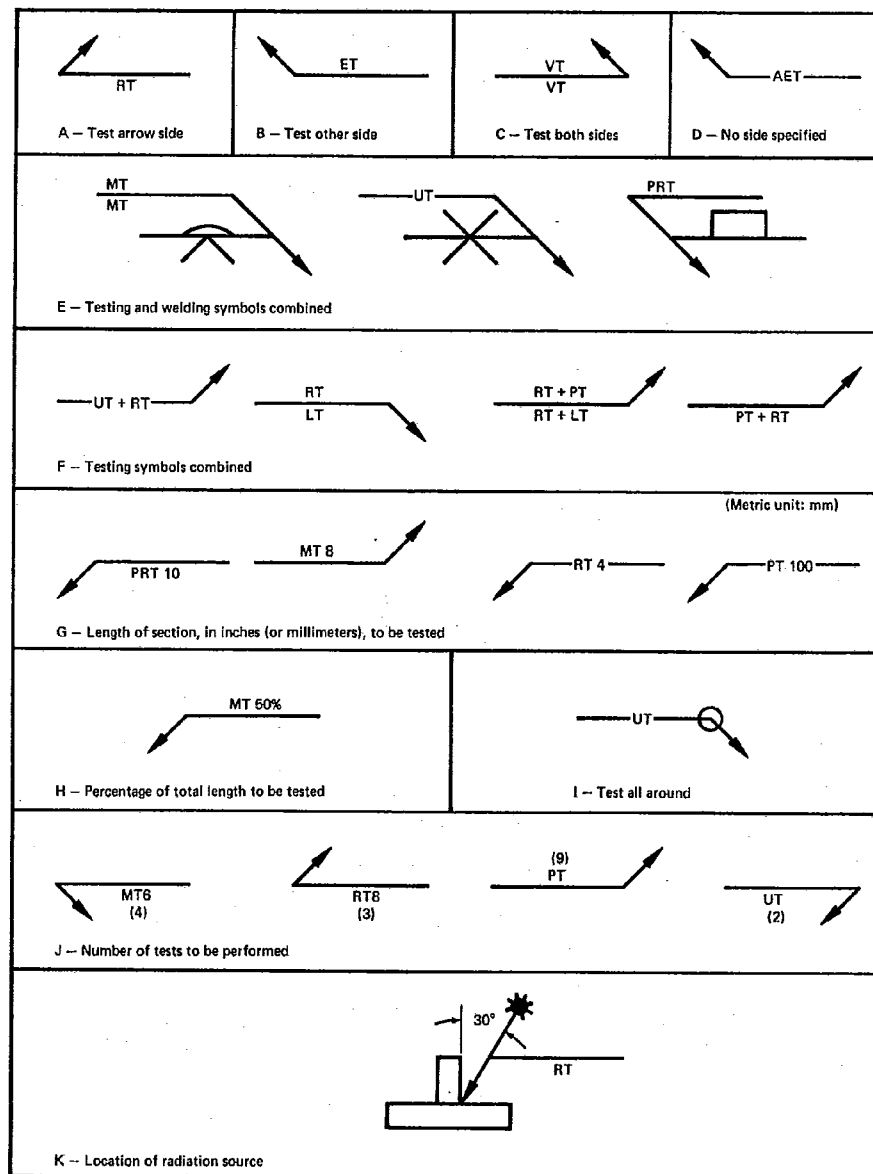

Fig. 3.5—Examples of typical nondestructive testing symbols
As the examples in Fig. 3.5 illustrate, non-destructive testing symbols are an effective shorthand method for conveying detailed inspection instructions. Figures 3.5(A), (B), (C), and (D) show that the same location references used in welding symbols also apply to non-destructive testing symbols: that is, operations noted below the reference line, as shown in Fig. 3.5(A), are performed on the arrow side, while notations occurring above the reference line, as shown in Fig. 3.5(B), prescribe tests performed on the other side. When both sides are to receive treatment, the proper symbol appears both above and below the reference line, as shown in Fig. 3.5(C). In the case where the side or sides to be tested have no special significance, as in Fig. 3.5(D), the symbol is placed in a broken portion of the reference line.
neater and less confusing drawings. Figure 3.5(E) shows various ways in which welding and testing symbols can be combined. In Fig. 3.5(F), the examples illustrate how two or more testing symbols can be combined.
Many times, inspection of the entire length of a weld is not necessary. Figure 3.5(G) shows how the length of the section to be tested can be noted on the nondestructive testing symbol. The dimensions are expressed in units corresponding to the system used on the drawing. Figure 3.5(G) gives examples with dimensions expressed in both inches and millimeters. Another common method for stipulating partial testing of a joint is to note what percentage of its total length will be inspected, as shown in Fig. 3.5(H). When a test is to be applied to the entire length of continuous nonlinear joint, the symbol for testing all around can be used, as shown in Fig. 3.5(I). Figure 3.5(J) shows how the number of tests to be performed at random can be designated by a number placed in parentheses.
When radiographic inspection is necessary, it is sometimes desirable to designate at what angle the radiation source is to be placed with respect to the joint. Figure 3.5(K) illustrates how this information is conveyed by a non-destructive testing symbol.